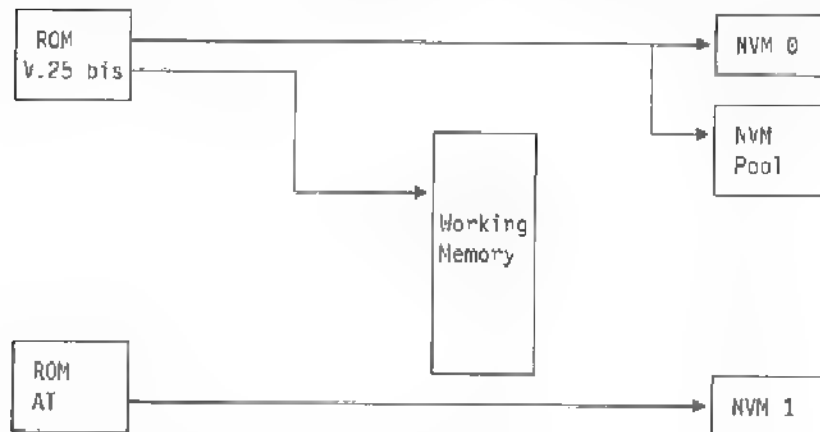

Figure 9-1. Factory Resets from the Front Panel
- Resetting the modem from the front panel (see "The First Setup Menu" on page 6-12). This resets the nonvolatile memory profiles and working memory to factory settings. The modem is configured exactly the same way as when it was first removed from its shipping box. This Reset to Factory is outlined in Figure 9-1